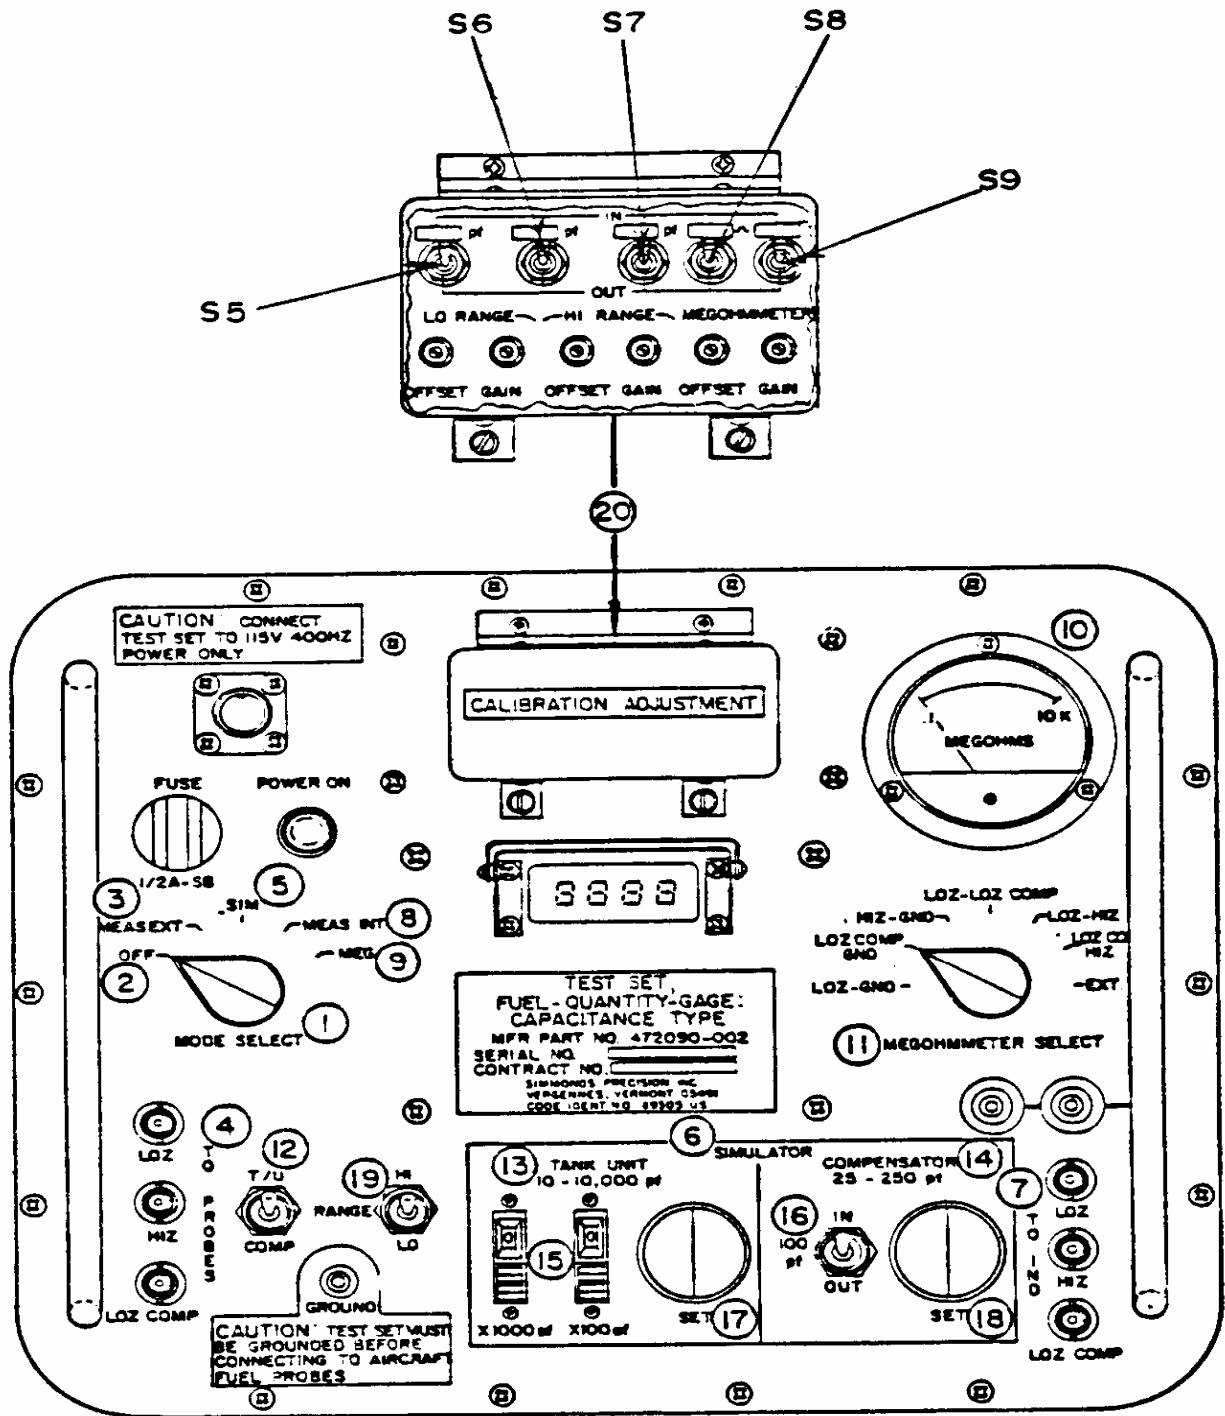

Figure 1. Simmons Precision, Inc. Model 472090-002, controls and adjustments locations.
- (1) Set switches as listed in (a) and b below:
- (2) Open the **CALIBRATION ADJUSTMENT** cover (fig. 1) and set all switches to **OUT** position.
- (3) Set S5 (left most toggle switch, fig.1) to the **IN** position.
- (4) If digital display does not indicate value stamped above S5 (fig.1), perform **b** (1) below.
- (5) Set switches as listed in (a) through (c) below (fig. 1).
- (b) S6 to **IN** position. If digital display does not indicate value stamped above S6 perform **b** (2) below.
- (6) Repeat (3) through (5) (c) until both display values are equal to value stamped above each switch and no further adjustments are required.
- (7) Set switches as listed in (a) through (g) below (fig 1):
- (b) S6 to **IN** position. If display does not indicate value stamped above S6, perform **b** (3) below.
- (c) S6 to **OUT** position and S7 to **IN** position. If display does not indicate value stamped above S7 , perform **b** (4) below.
- (f) S8 to **IN** position. If **MEGOHMS** meter does not read value stamped above S8 , perform **b** (5) below.
- (g) S8 to **OUT** and S9 (farthest right toggle switch fig.1) to **IN** positions.
- (8) If **MEGOHMS** meter does not read value stamped above S9 (fig 1), perform **b** (6) below.
- (9) Set S9 switch (fig.1) to **OUT** position.
- (1) Adjust **LO RANGE OFFSET** trimmer screw (fig. 1) until display reads same as value stamped above S5 switch (fig.1) (R).
- (2) Adjust **LO RANGE GAIN** trimmer screw until display reads same as value stamped above S6 switch (fig.1) (R).
- (3) Adjust **HI RANGE OFFSET** trimmer screw until display reads same as value stamped above S6 switch (fig.1) (R).
(4) Adjust **HI RANGE GAIN** trimmer screw until display reads same as value stamped above S7 switch (fig.1). If necessary repeat (3) above until no further adjustments are required (R).
(5) Adjust **MEGOHMMETER OFFSET** trimmer screw until **MEGOHMS** meter reads same value as stamped above S8 switch (fig.1) (R).
(6) Adjust **MEGOHMMETER GAIN** trimmer screw until **MEGOHMS** meter reads same value as stamped above S9 switch (fig.1). If necessary repeat (5) above until no further adjustments are required (R).
(1) Set **MODE SELECT** switch to **MEAS EXT** position.
(2) Set **RANGE** switch to **LO** position.
(3) Connect shorting plug (p/o TI) to **TO PROBES LOZ COMP** (fig 1).
(4) Connect variable capacitor to TI, G to **TO PROBES LOZ** and 115 to **TO PROBES HIZ**.
(5) Adjust variable capacitor to 40 pF. TI display will indicate between 39.8 and 40.2 pF.
(6) Repeat technique of (5) above for settings and indications listed in table 4.
- (1) Set switches as listed in (a) through (c) below:
- (c) S8 switch (fig. 1) to **IN**.
- (2) If **MEGOHMS** meter does not indicate value stamped above S8 switch (fig. 1), perform **b(1)** below.
- (3) Set S8 switch (fig. 1) to **OUT** position and S9 switch (fig. 1) to **IN**.